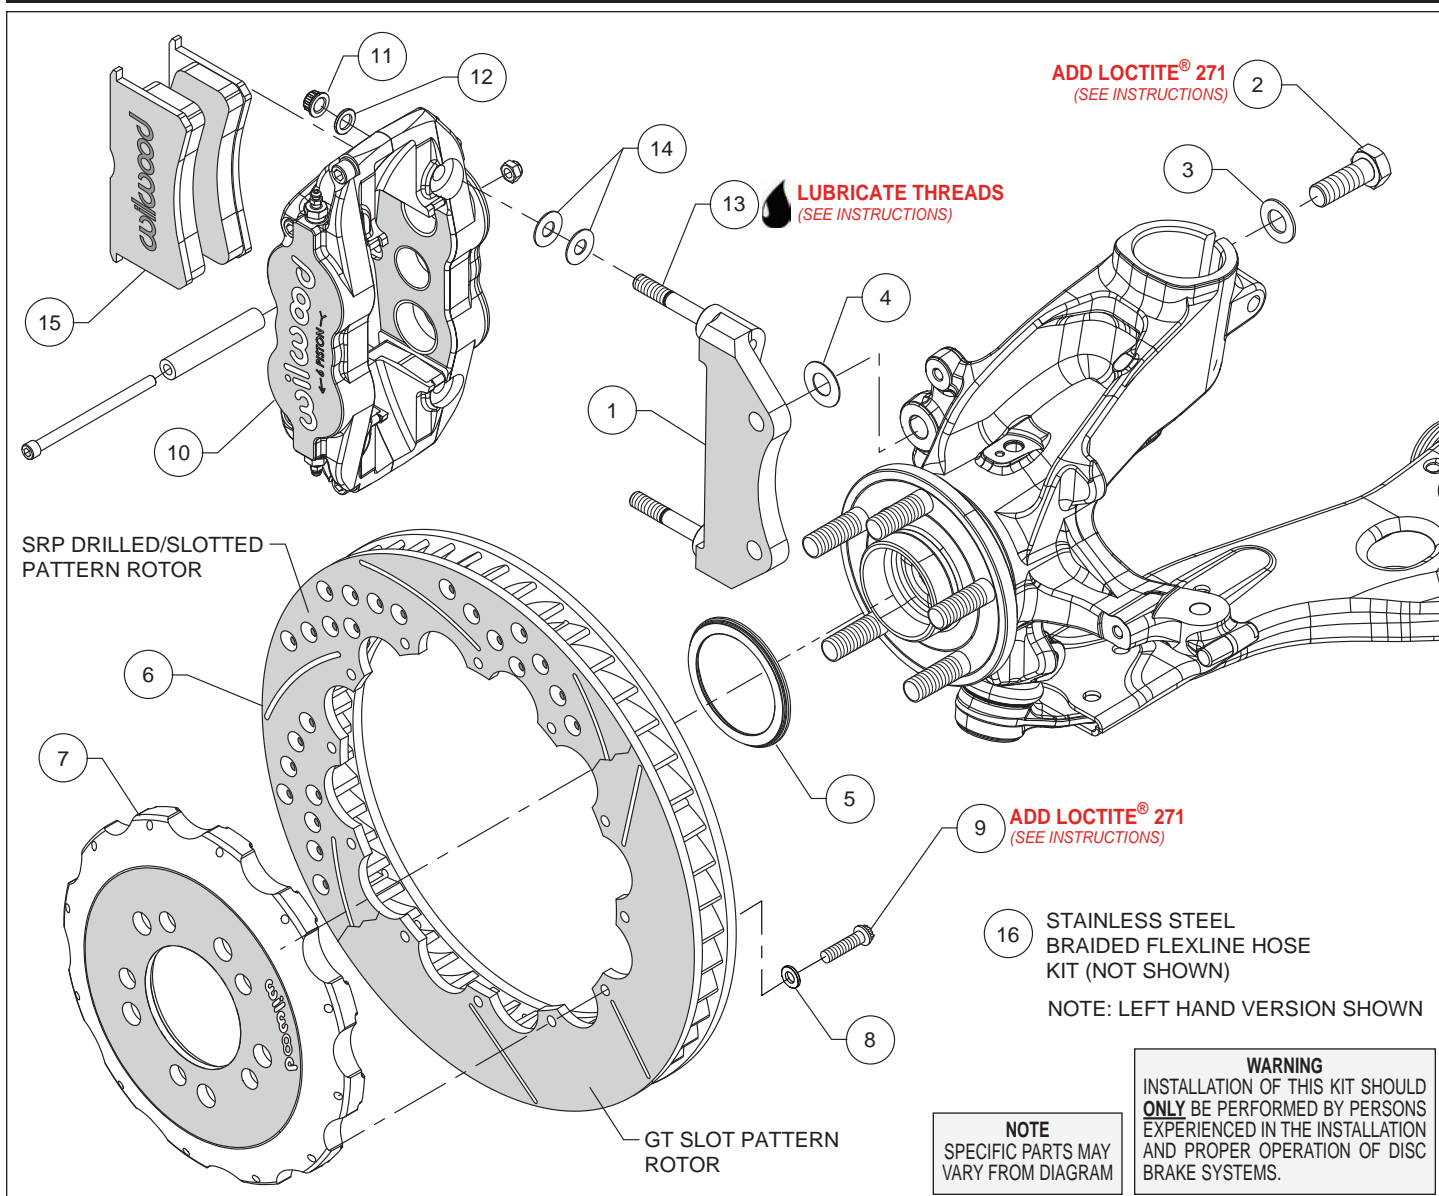
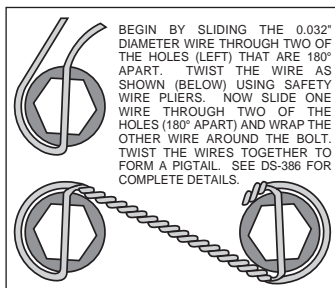

Figure 1. Typical Installation Configuration
Figure 3. Safety Wire Diagram
Assembly Instructions (numbers in parenthesis refer to the parts list and Figure 1 on the preceding pages):
- The caliper mount bracket (1) should initially be installed with clean, dry threads on the mounting bolts. Orient the bracket as shown in Figure 1 and Photo 1, and install using washers (3) and bolts (2). Initially place one .029 thick shim (4) on each bolt between the bracket and upright, Figure 1. Temporarily tighten the mounting bolts. **NOTE:** *The bracket must fit squarely against the mount bosses on the upright.* Inspect for interference from casting irregularities, machining ridges, burrs, etc. Later, after the caliper alignment has been checked, the mount bolts will be secured using red *Loctite*[®] 271.
- Orient the rotor (6) and the hat (7) as shown in Figure 1 and Photo 2. Attach rotor to hat using bolts (9) and washers (8). Using an alternating sequence, apply red *Loctite*[®] 271 to the threads, and torque to 155 **in-lbs**. For an added measure of security, the bolts may be safety wired using standard 0.032 inch diameter stainless steel safety wire as shown in Figure 3. Please refer to Wilwood's data sheet DS-386 (available at www.wilwood.com/Pdf/DataSheets/ds386.pdf) for complete safety wire installation instructions.
- Slide the rotor registration adapter (5) onto the axle register on the axle hub with the smaller O.D. facing outward, Photo 3. Slide the hat/rotor assembly onto the axle hub. **NOTE:** *The hat must fit flush against the axle hub flange or excessive rotor run out may result.* Install three lug nuts (finger tight) to keep the hat/rotor assembly in place while continuing with the installation.
- NOTE:** *This kit contains distinct right and left hand calipers that must be mounted in a specific direction, as described below.* Lubricate the caliper mounting studs (13) with lightweight oil. Initially place two .035" thick shims (14) on each stud as shown in Figure 1 and Photo 4. Mount the caliper (10) onto the bracket (1) using lock nuts (11) and washers (12), Figure 1. Ensure that the caliper is mounted so that the largest pistons are at the rotor exit end of the caliper, in relation to the direction of rotor rotation. Temporarily tighten the lock nuts and view the rotor through the top opening of the caliper. The rotor should be centered in the caliper, Photo 5. If not, adjust by adding or subtracting shims (4) between the bracket and the upright. Always use the same amount of shims on each of the two mounting bolts. Once the caliper alignment is correct, remove the bracket mounting bolts (2) one at a time, apply red *Loctite*[®] 271 to the threads, and torque to 60 ft-lb.